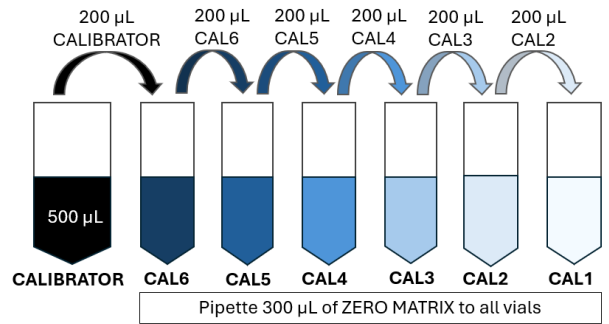

Figure 2: Schematic representation of serial calibrator dilution.
2. Generate in total six (6) calibrator levels (CAL6 to CAL1) by serial dilution (dilution factor 2.5) using the CALIBRATOR and ZERO MATRIX. Pipette 300 µL ZERO MATRIX to six (6) new polypropylene tubes. Add 200 µL of CALIBRATOR to the first vial resulting in CAL6. Use CAL6 to generate CAL5 by pipetting 200 µL. Repeat this procedure until CAL1 is generated (figure 2). Mix the vials carefully between pipetting steps.